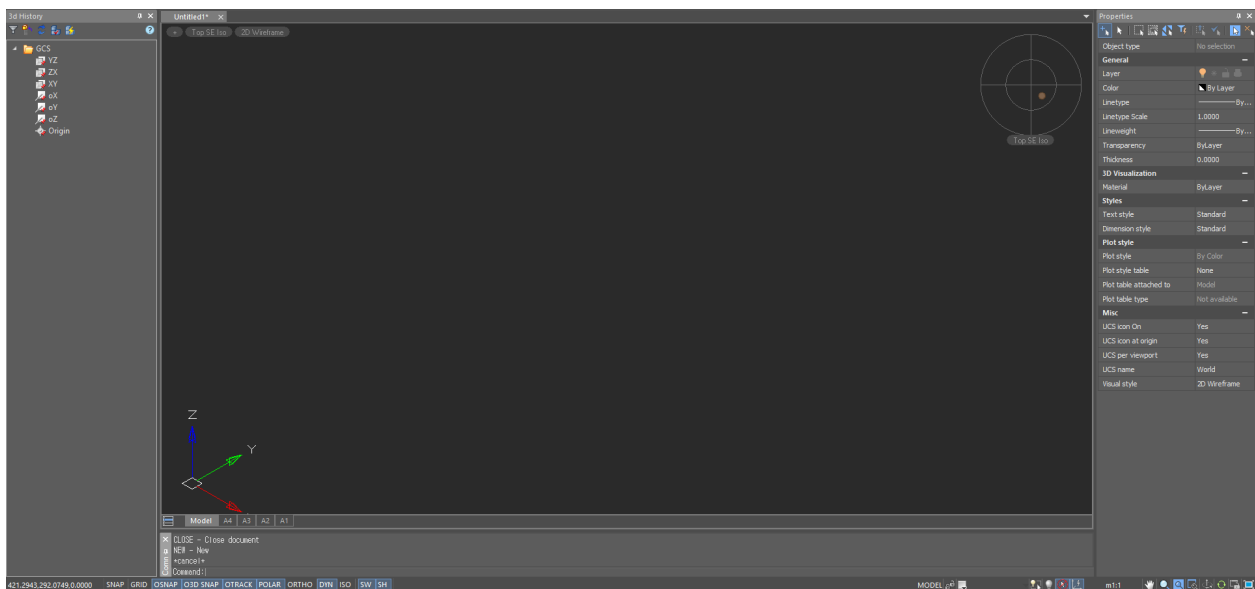

Fig. 2. Function panels arrangement on the screen
1.2. Place the **Properties** and the **3D History** panels on opposite sides of the screen. (Fig. 2).